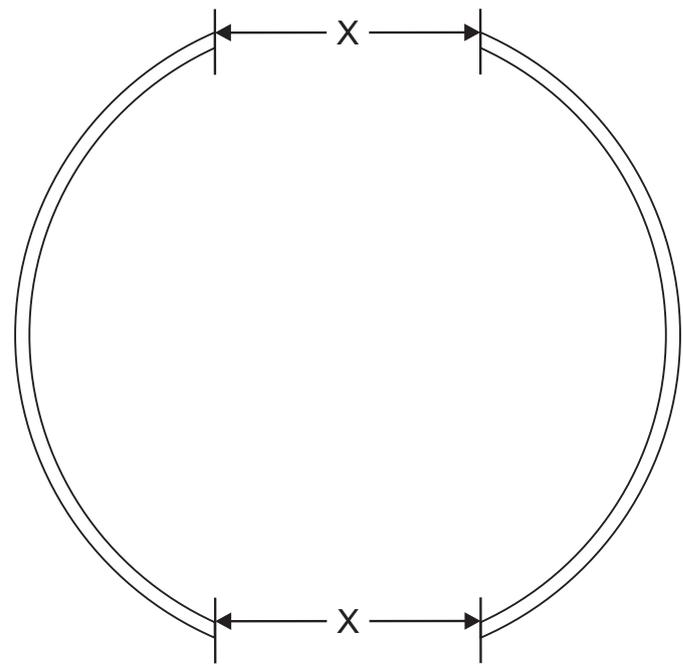

Fig. 54 Clearance
27. Check clearance X between drum walls at entrance and exit (Fig. 54).